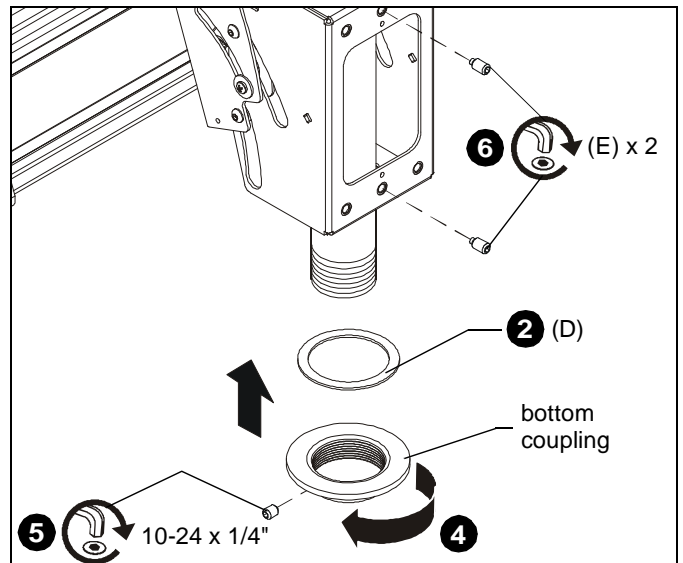

Figure 5
3. Insert one rotation ring (D) below mount assembly on leg of the quad ceiling accessory. (See Figure 5)
4. Thread bottom coupling onto leg of quad ceiling accessory until tight, with a minimum of four threads engaged. (See Figure 5)
5. Install and tighten one 10-24 x 1/4" set screw into bottom coupling. (See Figure 5)
6. Install and tighten two 5/16" nylon tipped set screws (E) [OR two 5/16" set screws included with mount assembly] through back of mount assembly and against column. (See Figure 5)